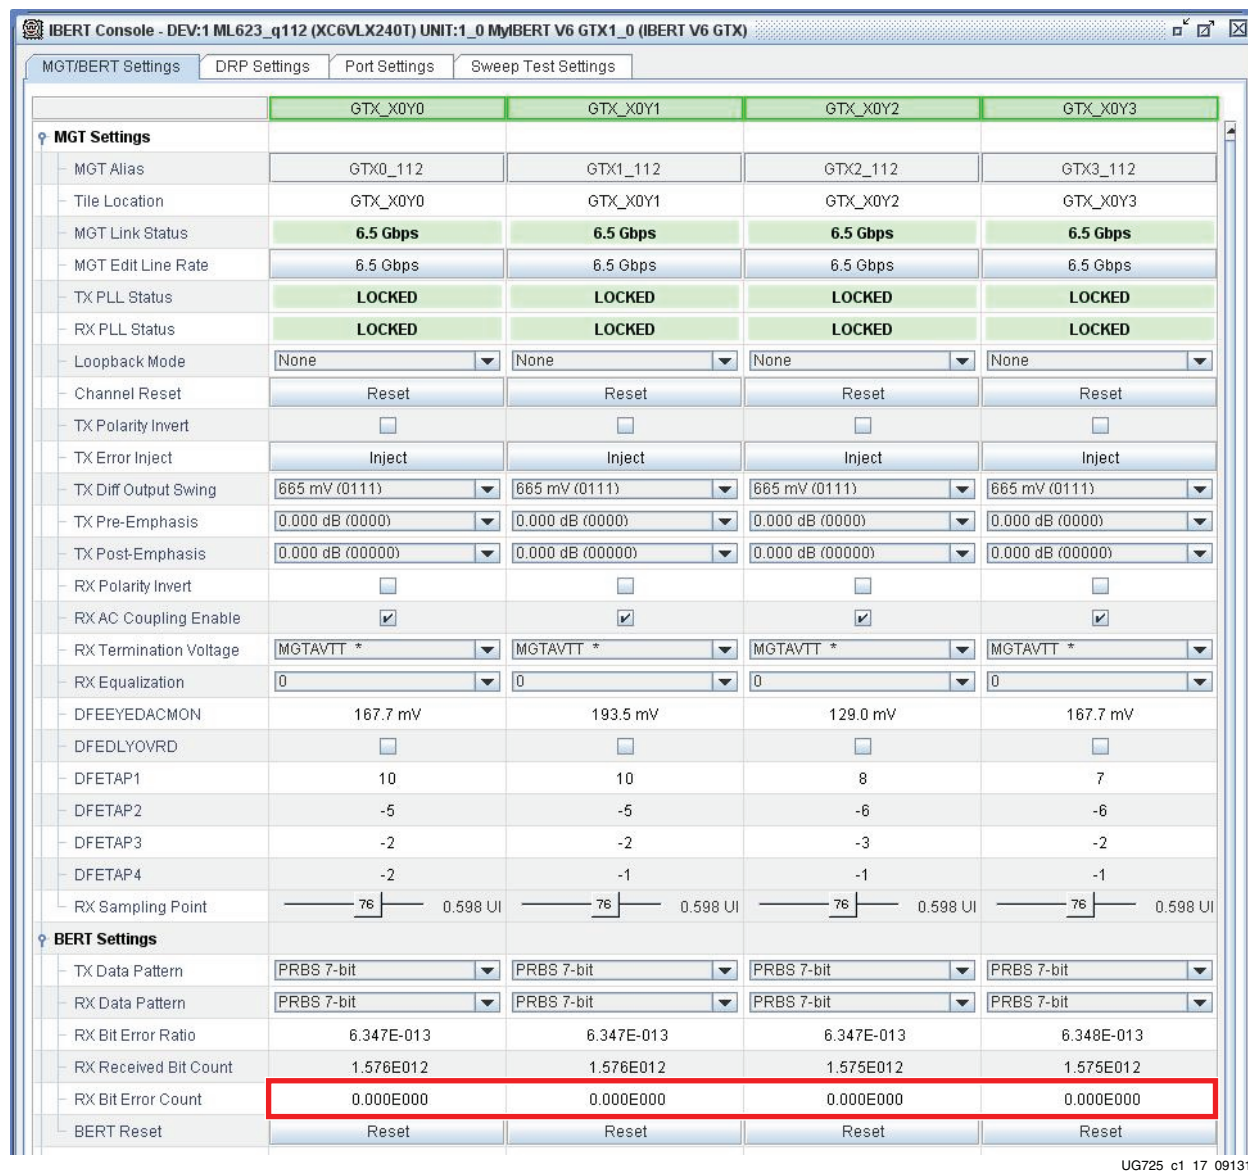

Figure 1-18: RX Bit Error Count
- Note that there are no bit errors as indicated by the RX Bit Error Count as shown in Figure 1-18.